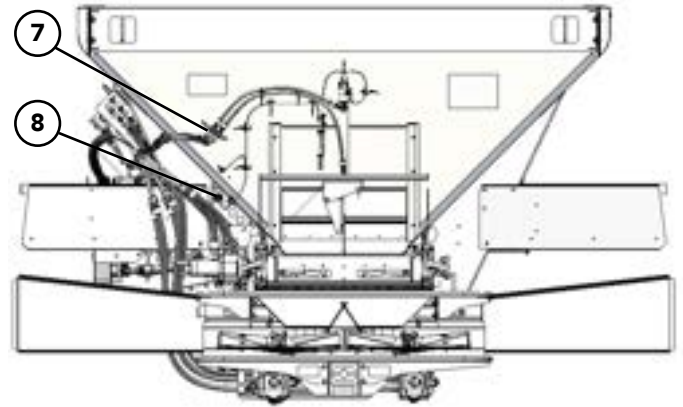

Figure 1B
- 4. Figure 1B - Disconnect Feedgate Hydraulic Hoses (7) and Electrical Harness (8).